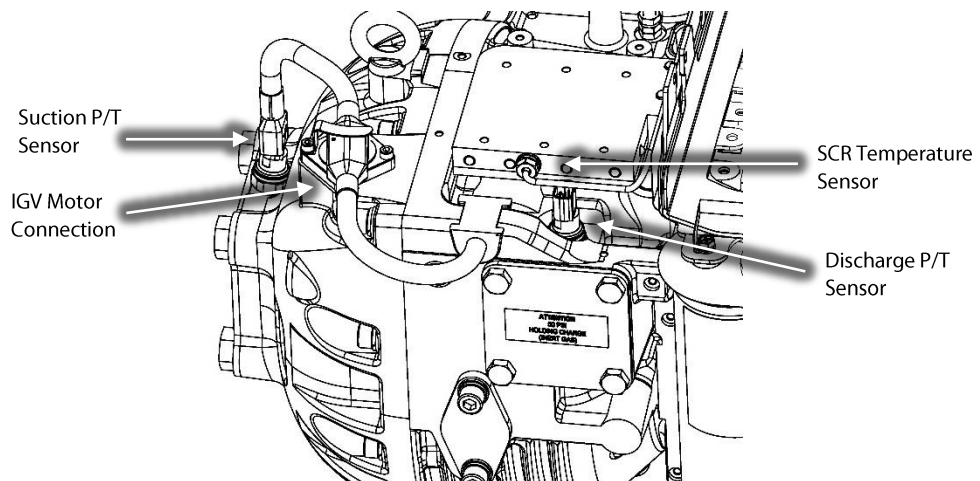

Figure 17 – Cable Harness Compressor Controller Removal
26. Disconnect the harness from the SCR temperature sensor, discharge P/T sensor, IGV motor connection, and the suction P/T sensor. Set the Compressor Controller Cable Harness aside. Refer to Figure 17 (Cable Harness Compressor Controller Removal).